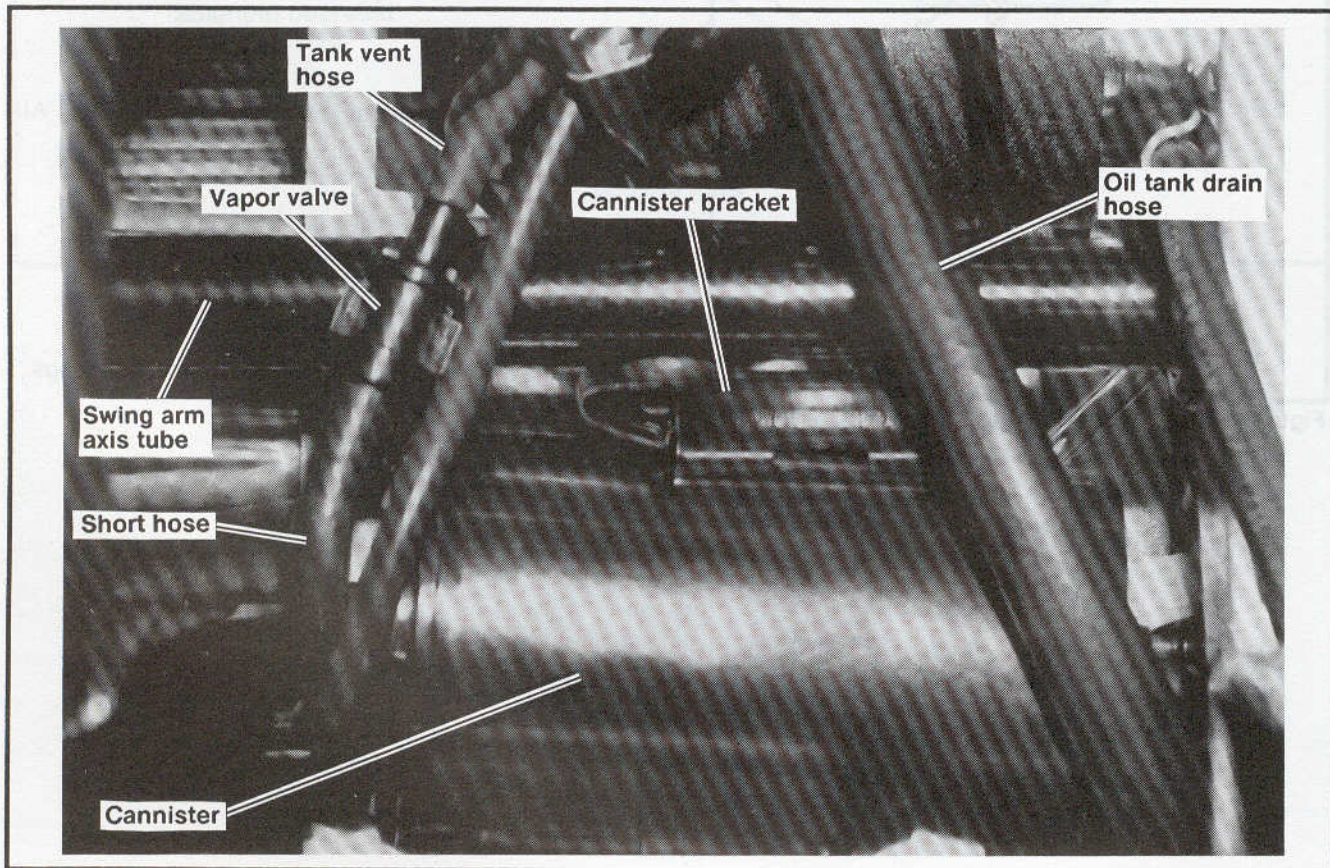

Figure 4-22. Canister Mounting - All Models
1. See Figure 4-22. Place clamp in position at bottom of swing arm axis tube and install screws and washers.
See Figure 4-22. Note clamp on swing arm axis tube. Position vapor valve in clamp. The short, heavy hose goes from the bottom of the vapor valve to the canister fitting marked "tank".